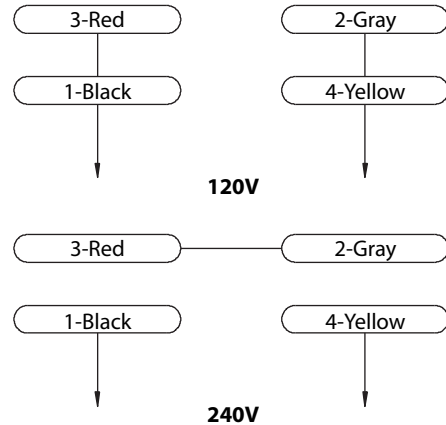

Figure 7 – Wiring Schematic
- Motor and wires are installed as shown in wiring diagram (See Figure 7). Motor is assembled with approved, 3-conductor cord to be used at 120/240 volts. Motor is prewired at the factory for 120 volts.